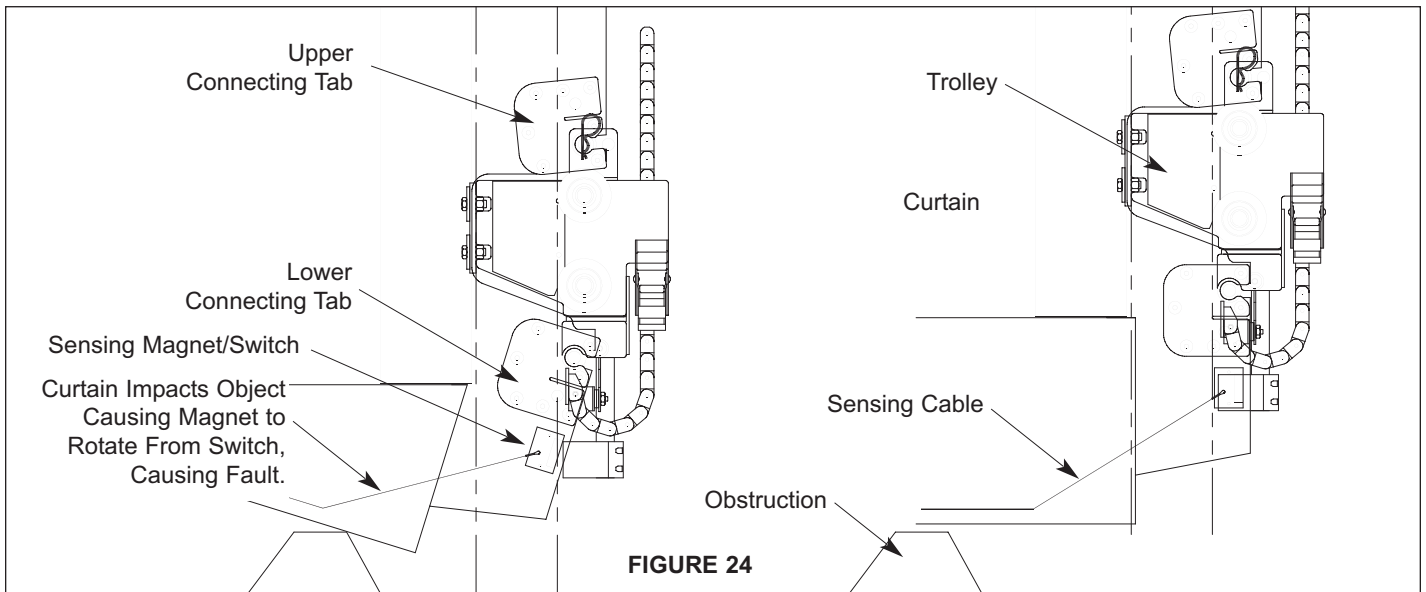

FIGURE 24
4. The bottom of the curtain houses a cable that stretches from end to end. There are switches on the trolley that line up with the magnet plate. When the bottom of the curtain impacts an object the circuit is broken, the door will reverse 1' and go into fault, **Figure 24**. When the door is closed and for 1 second when opening, the sensing cable is shut off to avoid false trips.